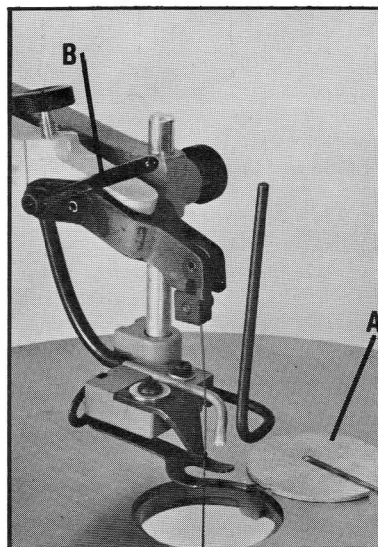

Fig. 14
1. Remove table insert (A) Fig. 14.
2. Release blade tension by pulling tension lever (B) forward, as shown in Fig. 14.